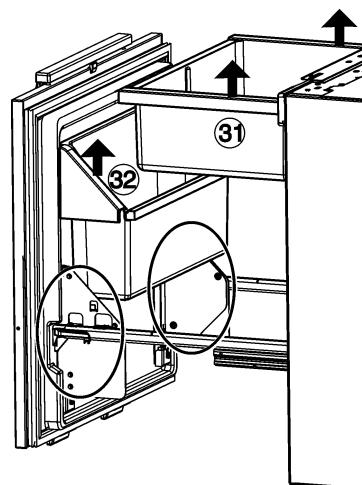

Fig. 26
- Lift up the vegetable drawer Fig. 26 (31) and bottle shelf Fig. 26 (32).
- Reinsert the bottle shelf Fig. 26 (32) and the vegetable drawer Fig. 26 (31).